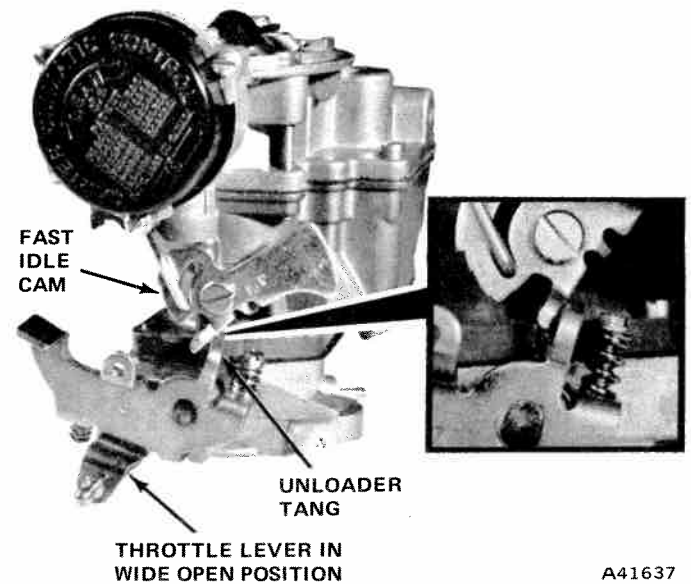

Fig. 4-28 Choke Unloader Adjustment
(1) Hold throttle fully open and apply pressure on choke valve toward closed position.
(2) Measure clearance between lower edge of choke valve and air horn wall. (Refer to Carburetor Service Specifications for correct setting.)
(3) Adjust by bending unloader tang which contacts the fast idle cam as shown in figure 4-28.